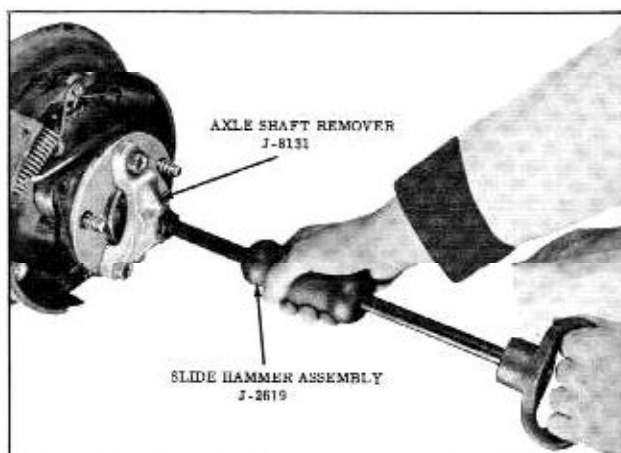

Fig. 5-23 Removing Axle Shaft
5. Pull axle shaft and bearing assembly from housing. Use Tool J-942-1 and Slide Hammer J-2619 if bearing is a tight press fit in the axle housing. (Fig. 5-23)